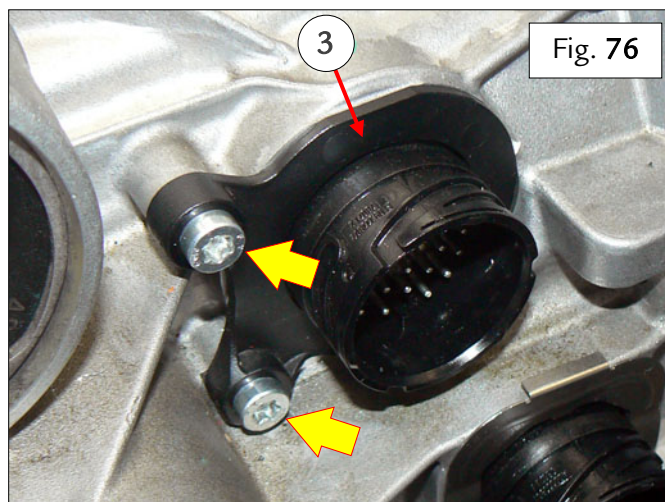

Fig. 76
- Insert the adaptor (3) (assembled onto the connector) in the respective hole in the differential housing, then fasten by tightening the new screws as indicated to a torque of 10 - 11 Nm – Fig. 76.